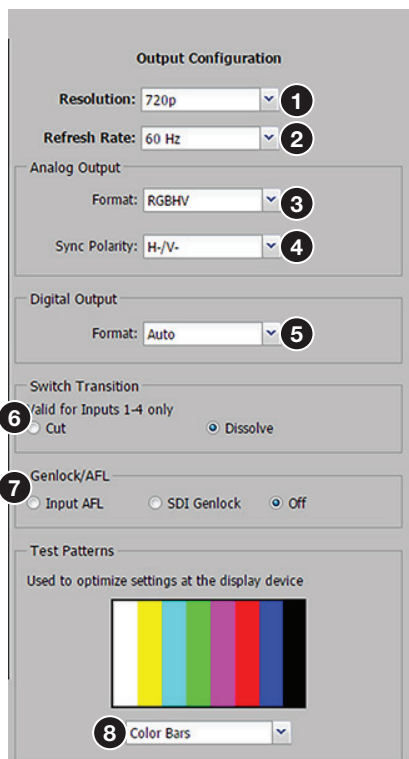

Figure 75. Output Configuration Panel
Click the arrow and from the drop-down menu box (see figure 75, ①) select the applicable output resolution (see Resolution and refresh rates on page 16 for a full list). The selectable resolutions include five user customizable ones: C1-C5.
Where applicable, SDI genlock or input signal genlock can be applied, or genlock can be turned off (see Genlock/AFL modes on page 18 for details). Select as desired (see figure 75, 7 on page 92).